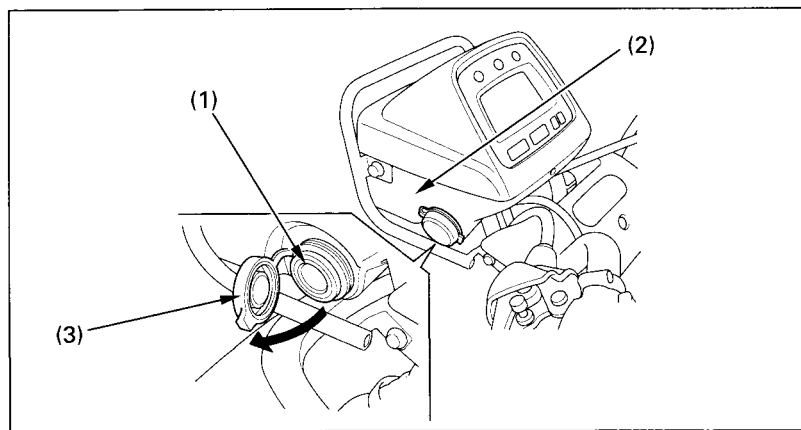

Fig. 2-33
The accessory socket (1) (Fig. 2-33) is attached to the left side of the assist headlight lower case (2). You can use the accessory socket to power a trouble light, spotlight, CB radio, or cell phone, etc.